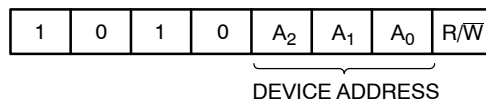

Figure 3. Slave Address Bits
The Master addresses a Slave by creating a START condition and then broadcasting an 8-bit Slave address. For the CAV24C64, the first four bits of the Slave address are set to 1010 (Ah); the next three bits, A₂, A₁ and A₀, must match the logic state of the similarly named input pins. The R/ \bar{W} bit tells the Slave whether the Master intends to read (1) or write (0) data (Figure 3).